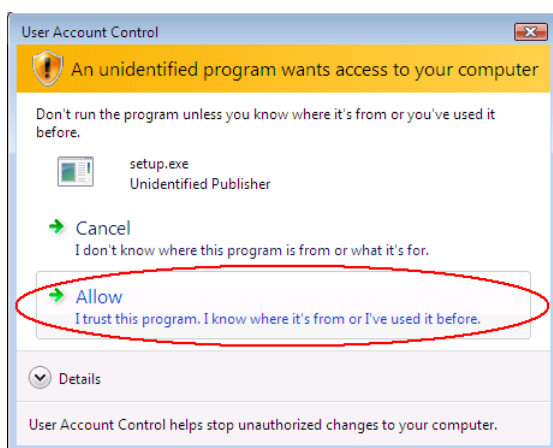
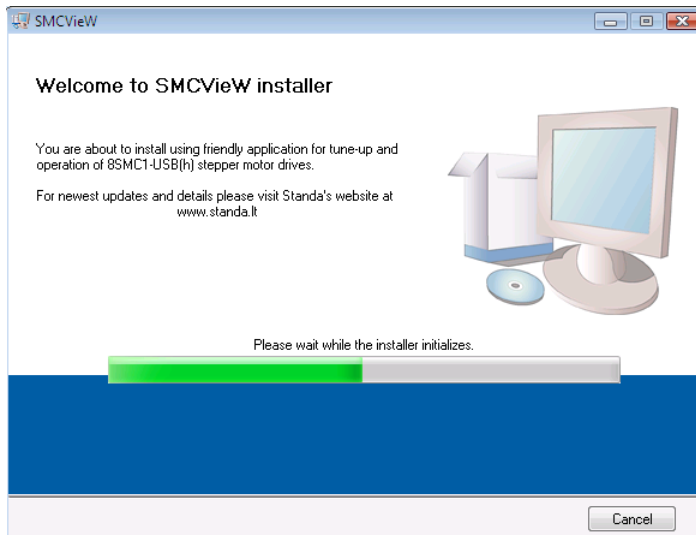

Figure 40. SMCView 1st installation screen
Figure 41. SMCView 2nd installation screen
- Press the "Allow" button to continue the installation (see Figure 40).
Note: Screen on Figure 40 appear on Windows Vista with enabled UAC only. On Windows Vista with disabled UAC or Windows XP you will see Figure 41 after launch setup.exe.
- Please wait while the installer initializes (see Figure 41).
Note: Next installation process will be shown for Windows XP operating system. Software installation processes under Windows Vista/2000 is just the same. The only difference on Windows Vista is presence screen like Figure 40 at the beginning of installation.